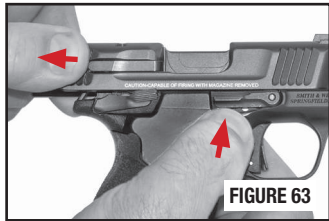

FIGURE 63
- Pull the slide fully to the rear, press upward on the slide stop while letting the slide move slightly forward thereby locking the slide open (FIGURE 63).